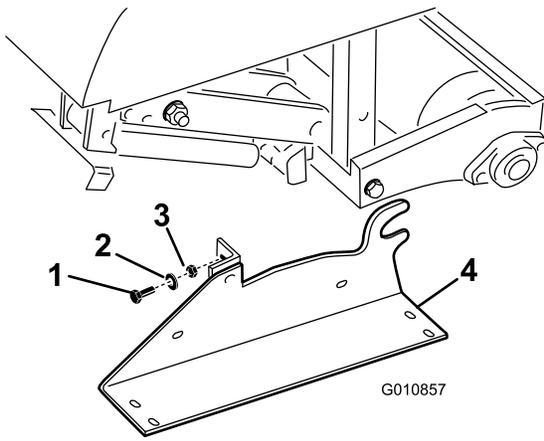

Figure 31
- Remove the bolts, lock washers and nuts securing the storage stands to each end of the aerator (Figure 31).